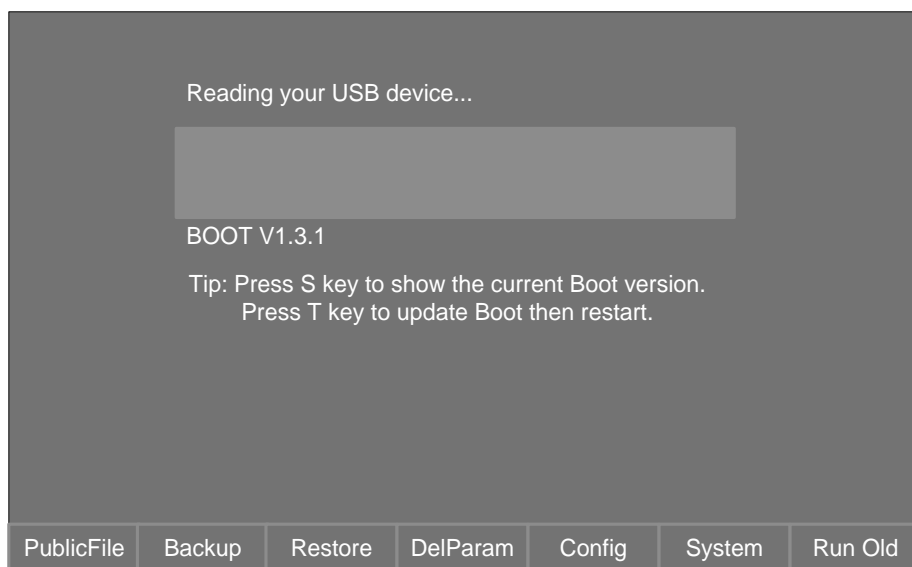

Fig. 5-2 BOOT system update interface
- 4) After update complete, the new software will be accessed. Fig. 5-2 is the interface booting the new software.